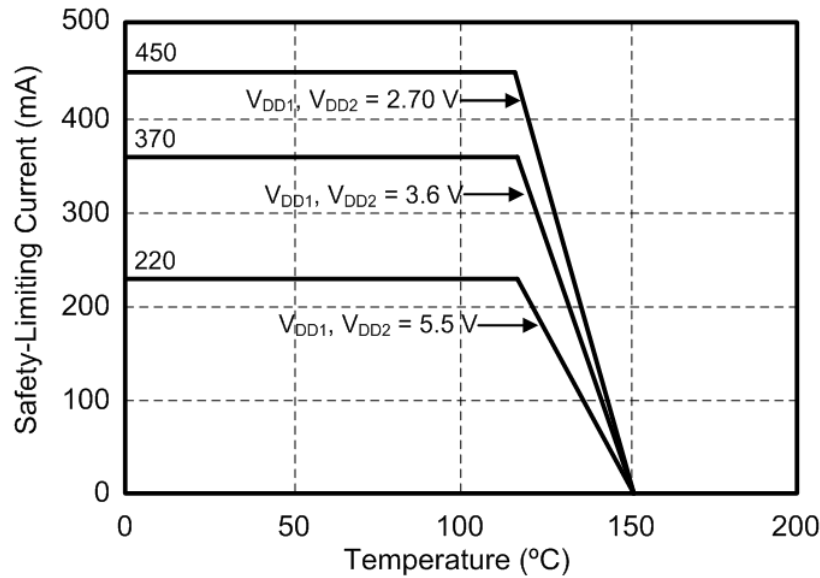
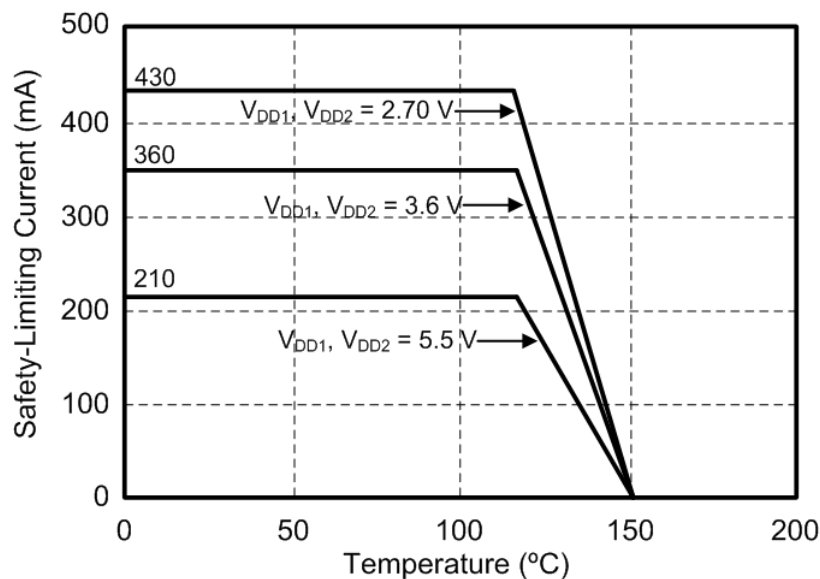

Figure 4.4. (WB SOIC-16) Thermal Derating Curve, Dependence of Safety Limiting Values with Case Temperature per DIN EN 60747-5-5/VDE 0884-10, as Applies
Figure 4.5. (NB SOIC-16) Thermal Derating Curve, Dependence of Safety Limiting Values with Case Temperature per DIN EN 60747-5-5/VDE 0884-10, as Applies
1. Maximum value allowed in the event of a failure; also see the thermal derating curve in [Figure 4.4 \(WB SOIC-16\) Thermal Derating Curve, Dependence of Safety Limiting Values with Case Temperature per DIN EN 60747-5-5/VDE 0884-10, as Applies on page 21](#) and [Figure 4.5 \(NB SOIC-16\) Thermal Derating Curve, Dependence of Safety Limiting Values with Case Temperature per DIN EN 60747-5-5/VDE 0884-10, as Applies on page 21](#).